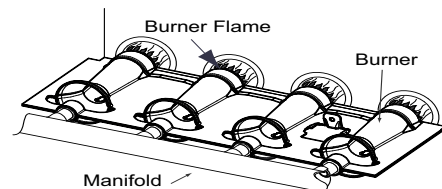

Fig. 63 – Burner Flame
- i. When correct input is obtained, replace cap that conceals gas valve regulator adjustment screws. Main burner flame should be clear blue, almost transparent See Fig. 63.